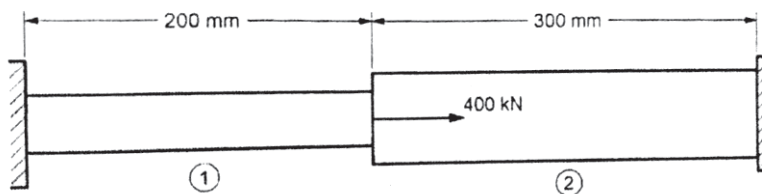

**Figure 1**
**Q3) a)** An axial load  $P = 300$  kN is applied on a stepped steel bar as shown Figure 1. **[6]**